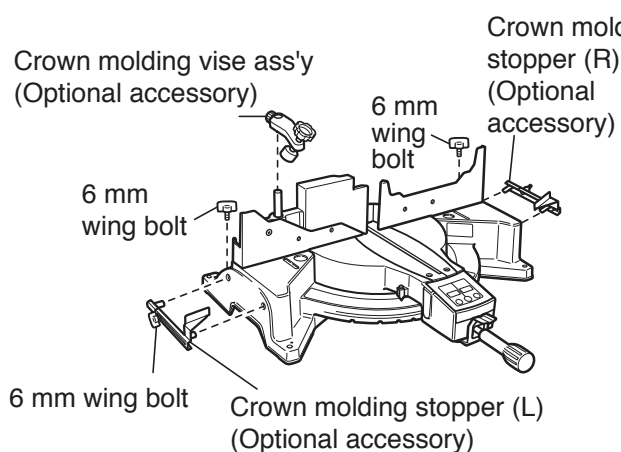

Fig. 22
(1) Crown molding stoppers (L) and (R) (optional accessories) allow easier cuts of crown molding without tilting the saw blade. Install them to both sides of the base as shown in Fig. 22. After inserting, tighten the 6 mm knob bolts to secure the crown molding guides.